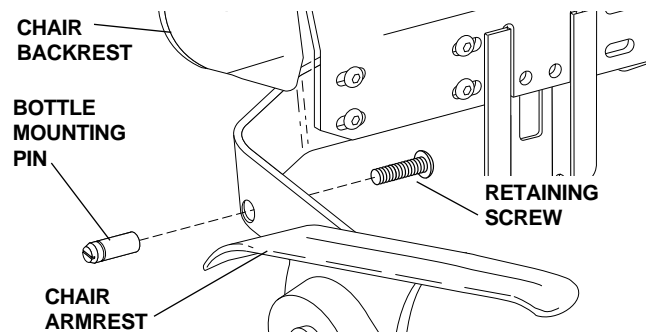

FIGURE 7
- Locate the bottle mounting pin and retaining screw from the kit. The water bottle can be mounted on either side of the chair. Install the mounting pin and retainer screw as shown in Figure 7. Securely tighten the retaining screw.